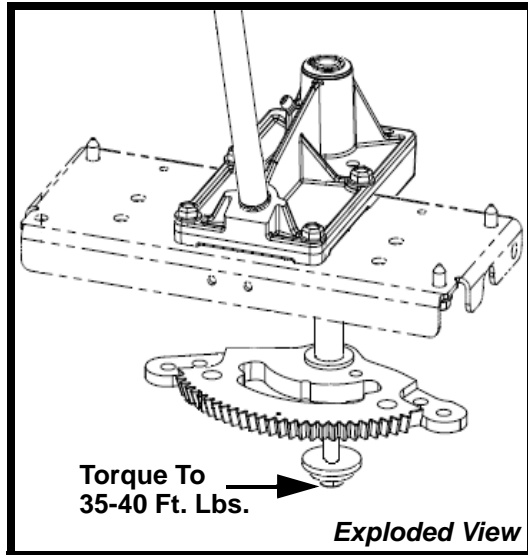

FIGURE 10
25. Hold the segment gear from turning and torque item #12 (710-0591) 3/8-24 x 1.00" hex head cap screw to 35-40 ft. lbs. See Figure 10